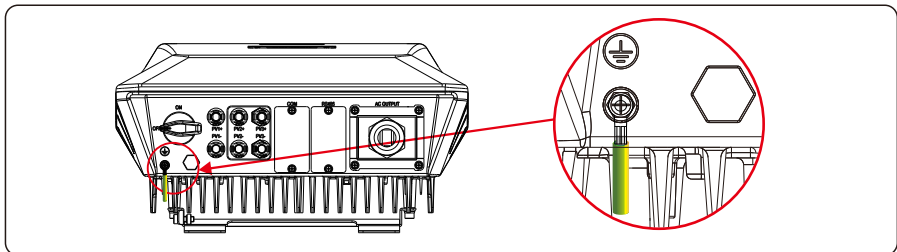

Figure 5.3 Securing the PGND cable
Step 3 Secure the PGND cable (done by step 1 & 2) using the ground bolts and tighten the bolts to a torque of 1.2 N·m using a socket wrench. Ensure that the PE wire is grounding well and impedance between earth wire and neutral wire is no more than 10 Ω, as shown in Figure 5.3.